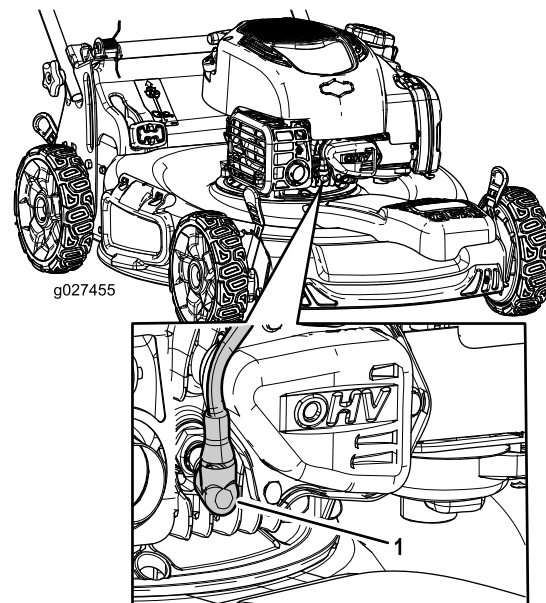

Figure 19
2. Disconnect the spark-plug wire from the spark plug (Figure 19).